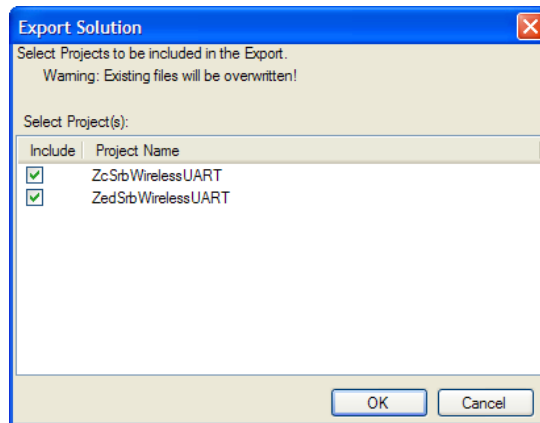

Figure 5-15. Export BeeKit Project Solution Window
- From the BeeKit main window tool bar, click on Solution -> Export Solution. BeeKit verifies the internal consistency of the configuration and looks for errors such as two endpoints with the same number. If verification succeeds, the window that appears displays the created device, with a checked box as shown in Figure 5-15.